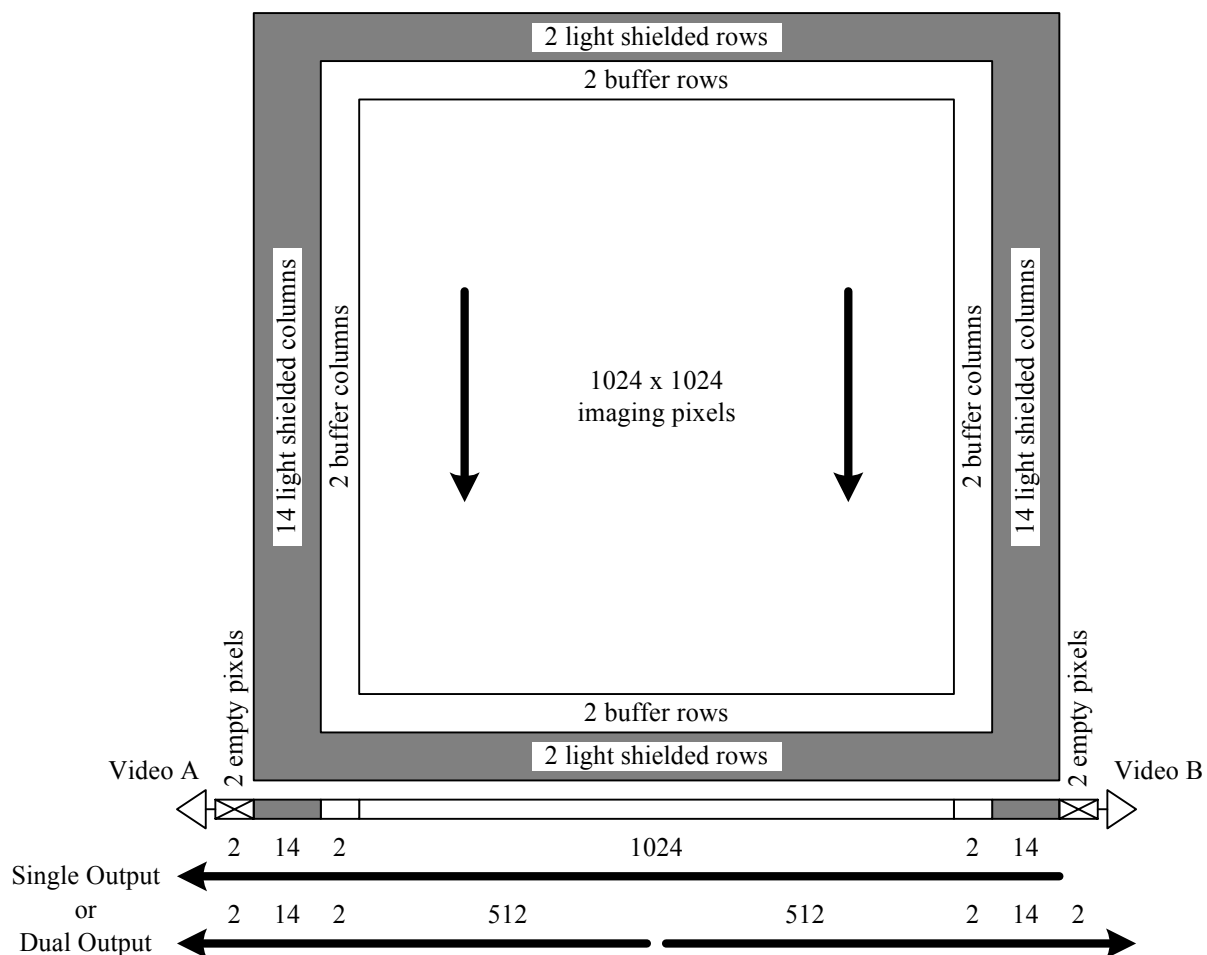

Figure 1 - KAI-1003M Sensor Architecture
The single horizontal CCD register is split into two halves to allow a variety of line readout modes, as shown in Figures 1 and 2. The A output half of the register is a true two-phase design, which results in unidirectional transport using phases H1A and H2A. The B output half of the register is a pseudo two-phase design, which allows bi-directional transport using phases H1B, H2B, H1C and H2C. Dual output is achieved with all of the first phases identical and all the second phases identical. If the clocks of H1A and H2A phases are shifted by one half cycle, the output remains dual with the outputs alternating, so that only one analog-to-digital converter is necessary. Finally, single output of the entire image from the A output is obtained by complementing the C phases, which reverses transport in the B half of the horizontal CCD.
In addition to the 1024 (H) by 1024 (V) imaging pixels, there are active buffer, light shielded and empty pixels, as shown in Figure 1. A two-pixel border of active buffer pixels surrounds the imaging area. These buffer pixels respond to illumination but are not tested for defects and non-uniformities. Two light shielded rows lead and follow each frame, and 14 light shielded columns lead and follow each line. The light shielded columns are tested for column defects and can be used for dark reference. Only the center 10 columns by 1028 rows of light shielded region on each side can be used for dark reference due to light leakage into the border of two pixels at the edges. Finally, two empty pixels occur at the beginning of each line, which are empty shift register cycles not associated with any vertical CCD columns. Empty pixels may also occur at the end of the line, depending on the timing.